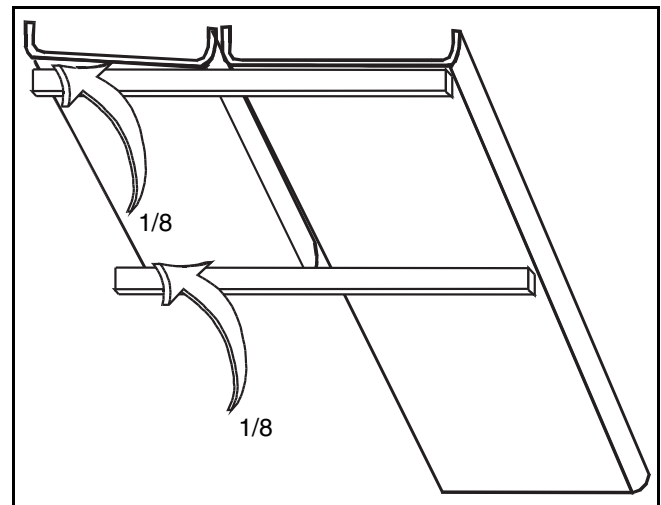

Figure 22 Independent Angle of Attack
- 3) With straight edge flat against the main screed bottom, the straight edge should contact the extending screed bottom at the trailing edge. There should be 1/8" gap between the leading edge of the extending screed bottom and the straightedge. (Figure 22)